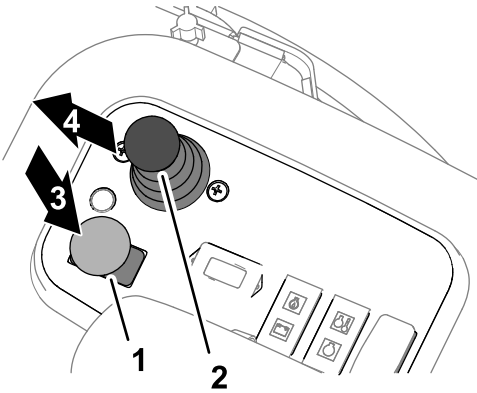

Figure 49
3. Press the cutting unit drive switch to the DISENGAGE position (Figure 49).
5. Move the lower mower/raise control lever forward (Figure 49).